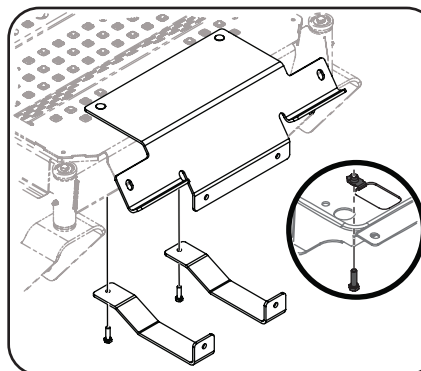

Figure 4-20
4. Loosely fasten the bottom bracket assembly to the tractor frame with 2 bolts (710-0643). See Figure 4-20.